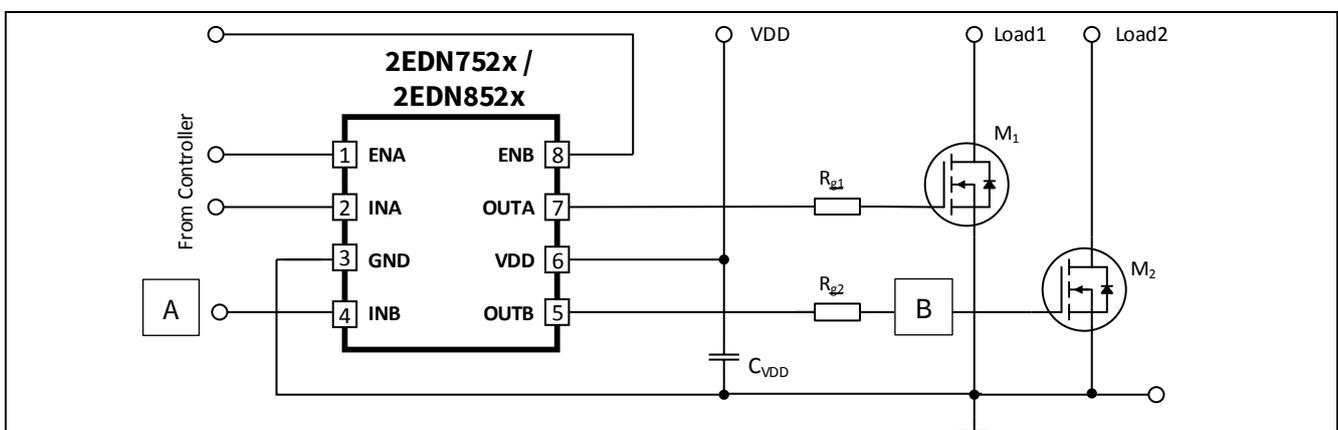

Figure 2 Transfer signal measurement
Often for replacements, the original device could have a different output stage topology internally. This includes different internal impedance, slew rates and timing behavior. It is a good idea to measure the MOSFET gate voltage reaction (B) according to the input signal (A) as described below (see figure 2). Adjusting resistor R_g can bring the signal as close as possible to the original time and slope.